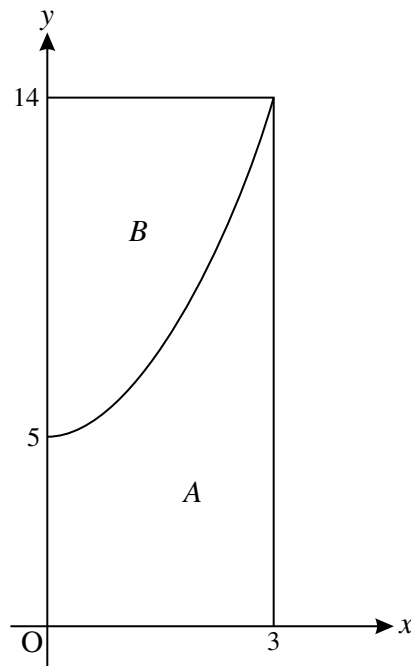

Fig. 4
- 4 The region A is bounded by the curve $y = x^2 + 5$ for $0 \leq x \leq 3$, the x -axis, the y -axis and the line $x = 3$. The region B is bounded by the curve $y = x^2 + 5$ for $0 \leq x \leq 3$, the y -axis and the line $y = 14$. These regions are shown in Fig. 4.